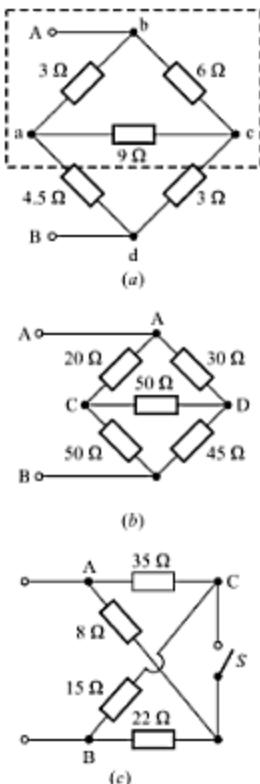

Fig. 2.51
29. Determine the equivalent resistance at the terminals A-B of the networks given in Fig. 2.51.